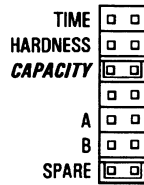

Figure 9
Move the jumper to the set of pins next to the word **CAPACITY** (Figure 9). Press the black **TIME SET** button until the correct capacity value is displayed. The capacity range is 1 to 99 kilograins. Refer to the Suggested Salt Dial Settings table (8).